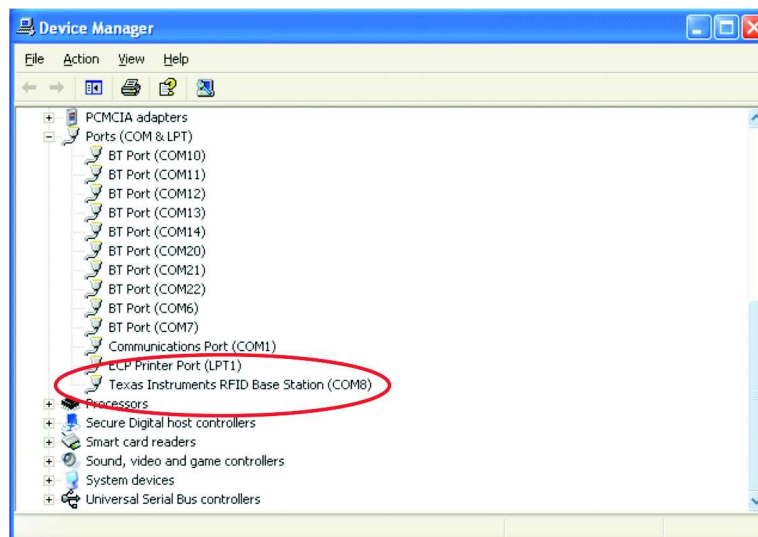
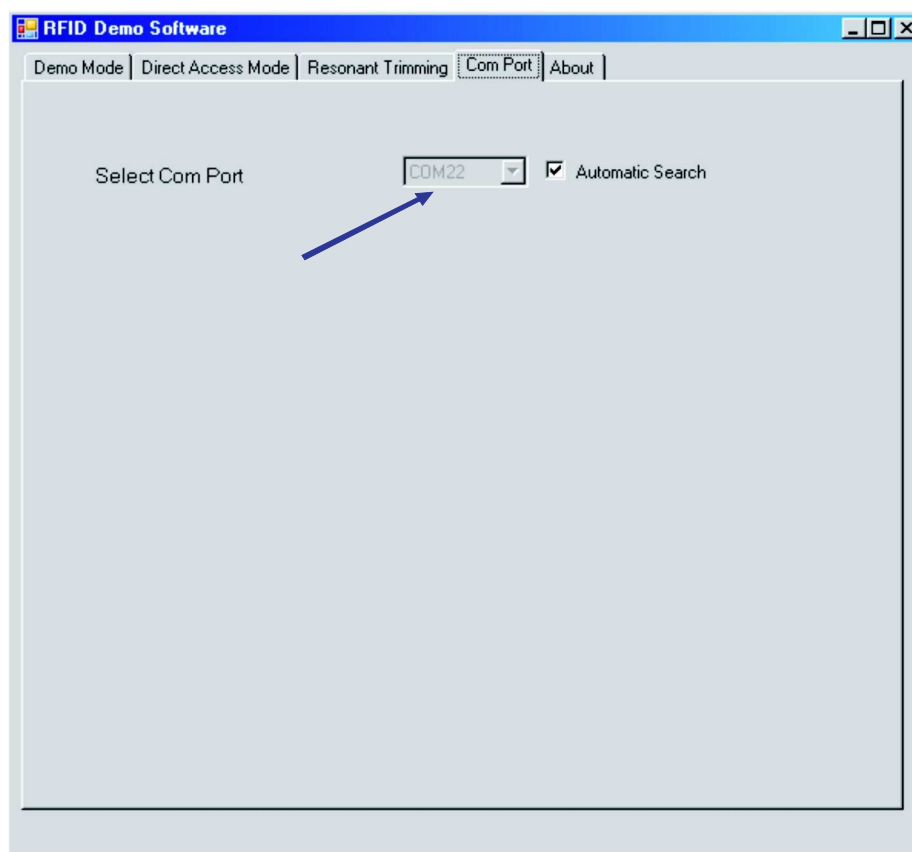

Figure 11. RFID Base Station in Device Manager
Figure 15. RFID Demo Software: Com Port Tab
9. Find the right Com Port for the RFID Base Station ("Texas Instruments RFID Base Station") in the Windows Device Manager (see Figure 11).
4. Go to the Com Port tab and choose the right com port for the RFID Base Station (see Figure 15). The base station connects automatically to the right com port on the PC (the right com port can be found as shown in Figure 11).